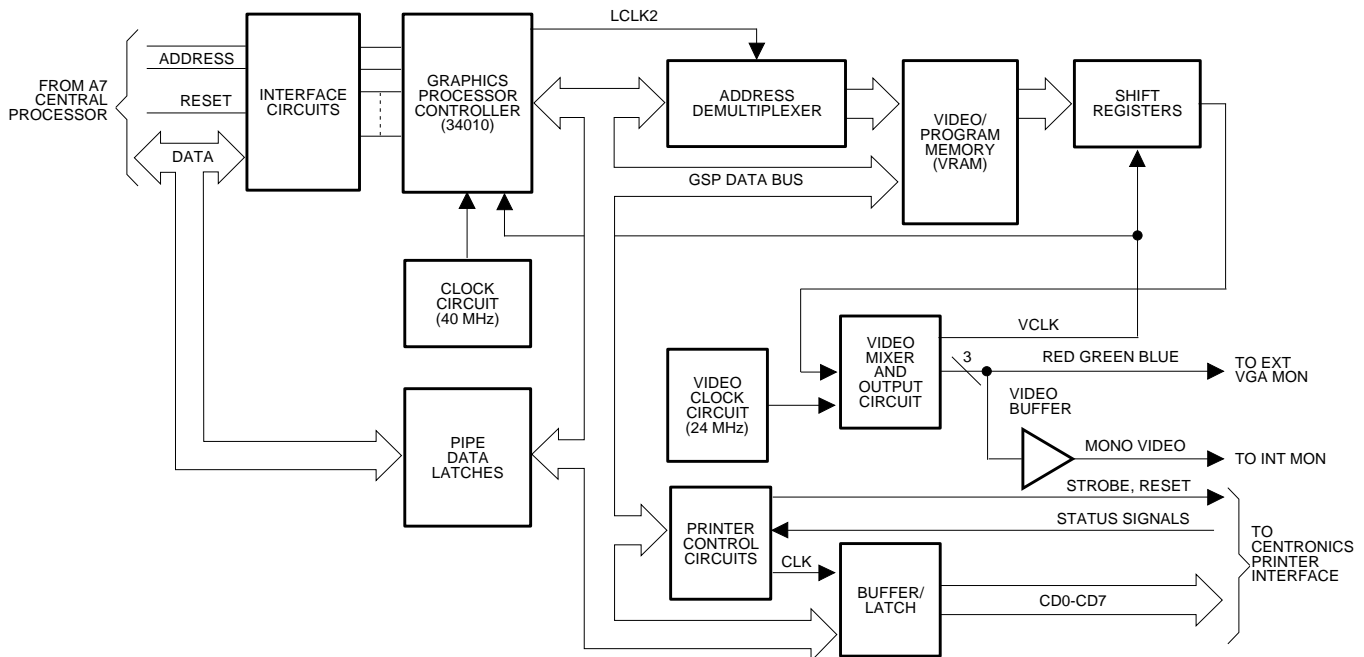

Figure 4-3. Block Diagram of A8 Graphics System Processor PCB
The A8 Graphic System Processor (GSP) PCB (Figure 4-3) is an intelligent subsystem that is loosely controlled by the A7 Central Processor PCB. It produces the video signals for the internal CRT monitor screen display and for the external VGA monitor interface. It also produces the data and control signals for the Centronics printer interface. There are no adjustments on this PCB.
- *The Graphics Controller Chip (34010):* This controller interprets the commands from the A7 PCB Central Processor and produces appropriate command signals and data streams that produce the desired CRT monitor display or printer output. The GSP controller communicates with the GSP memory, video output circuits and printer interface circuits via the internal GSP Data Bus (Figure 4-3).
- *Data "Pipe":* Two latches form a data pipe that allows direct communication from the A7 Central Processor PCB to/from the GSP processor via the GSP Data Bus (Figure 4-3).
The GSP control program causes the GSP controller to wait for instructions and data that are sent to it from the central processor via the pipe interface (Figure 4-3). The commands used by the central processor to control the GSP are high level commands such
The GSP processor sends formatted printer output data and control signals to the printer interface circuits via the GSP data bus. The printer interface controller chip provides the data strobe that clocks the output data from the GSP bus into the data buffer/latch (Figure 4-3). It also provides the LSTB (strobe) and PRINTER RESET signals to the printer. Along with associated data latch circuits, it receives the printer status signals and sends them to the GSP controller via the GSP bus.